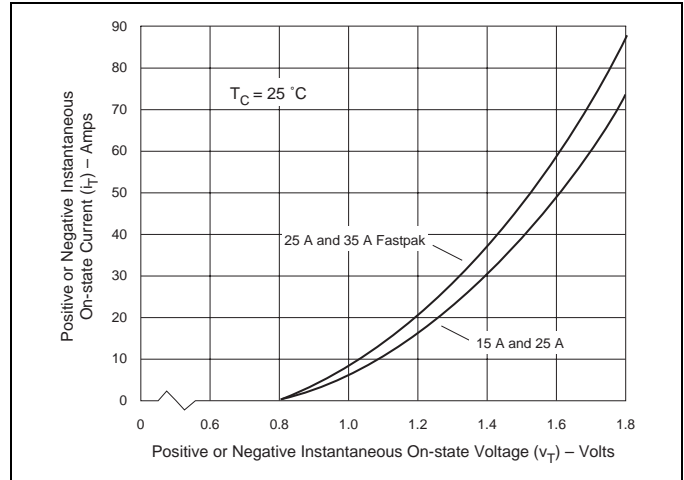
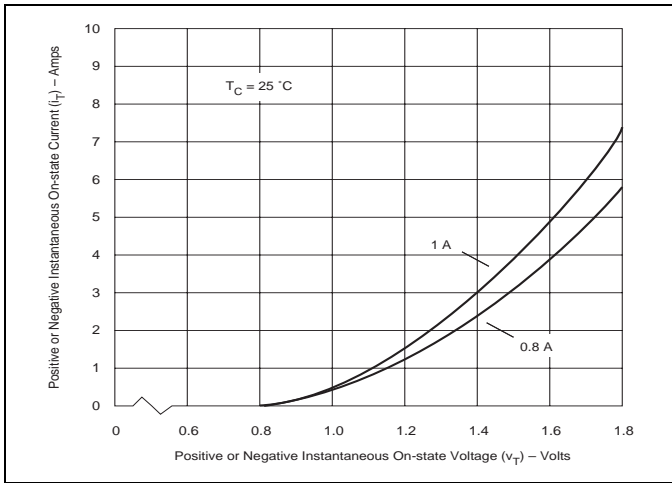

Figure E2.10 On-state Current versus On-state Voltage (Typical) (15 A and 25 A)
Figure E2.8 On-state Current versus On-state Voltage (Typical) (0.8 A and 1 A)
- (5) See Figure E2.8 through Figure E2.10 for iT versus vT.